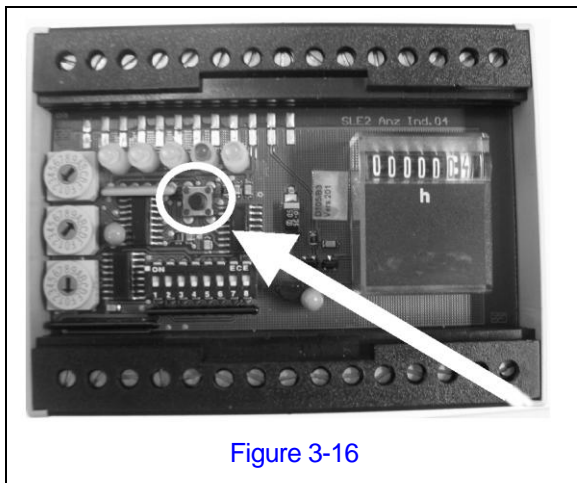

Figure 3-16
- 2. Press the S5 button and hold for 5 seconds and release. (The S5 button is located directly below the red “err” LED. Figure 3-16.)